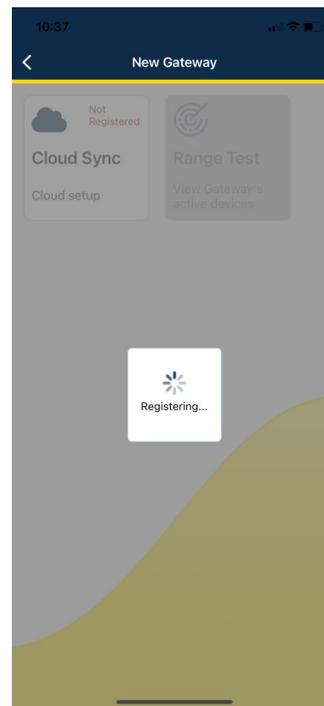

Figure 30
- The gateway will automatically go through the registration process (Figures 30—31). After completion select **Ok**.